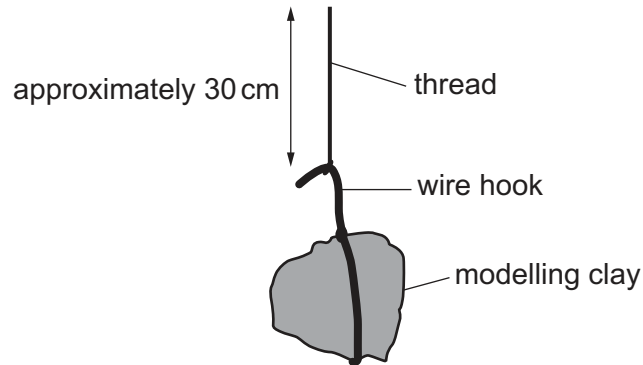

Fig. 1.2
2. The modelling clay must have a wire hook, or similar, as shown in Fig. 1.2. The hook may be formed from wire wrapped around the modelling clay or may be embedded in the clay. The hook must be rigid enough to support the modelling clay when suspended from a length of thread (approximately 30 cm long) as shown in Fig. 1.2. The piece of modelling clay must have sufficient mass so that, when connected to the rod by means of the hook and thread loop, the rod and clay sink in water.